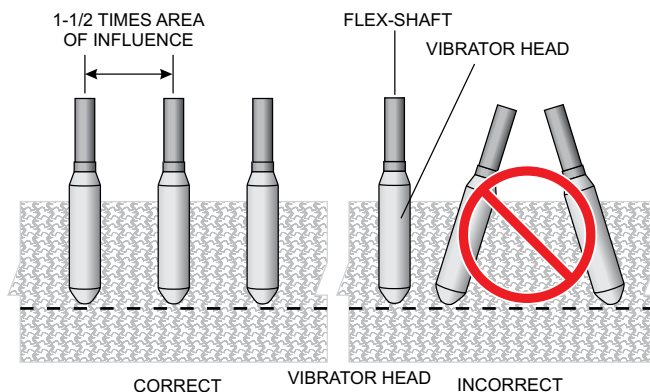

Figure 6. Vibrator Head Insertion
2. Keep flexshaft (Figure 6) straight as possible when operating. Sharp bends increase the load on the core and drive motor, which will result in early core failure and possible damage to the drive motor.
8. Re-insert vibrator into mix according to the "area of influence" See Figure 6. Establish a symmetrical overlapping pattern for inserting and removing the vibrator head.